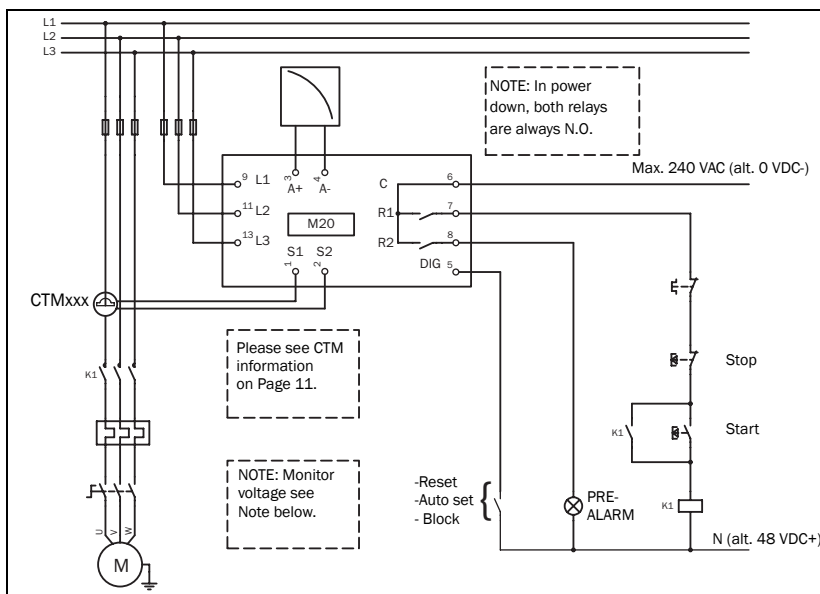
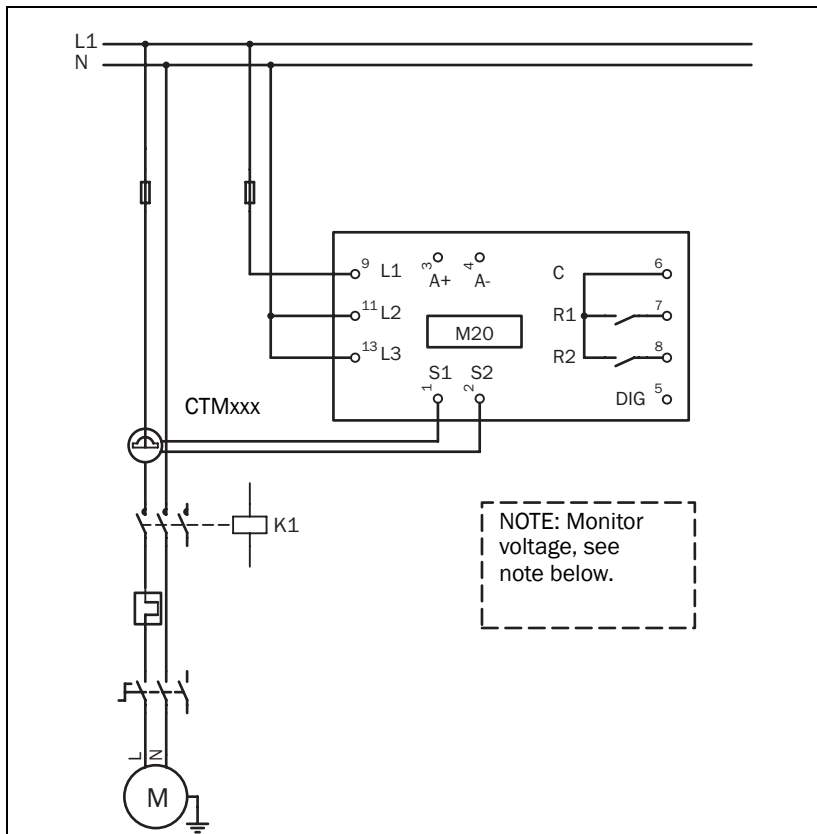

Fig. 1 Connection example
Fig. 2 Single-phase connection example.
1. Connect the Emotron M20 according to chapter 5 and Fig. 1.
The following wiring diagram provides an example of how the M20 can be connected to control the start/stop circuit of a three-phase motor, Fig. 1. Connections to a single-phase motor are described later in this manual (Fig. 2) as are the programming changes necessary for such applications. The default setting for the M20 is 3-phase.
1. The current transformer CTMxxx must be placed in the same phase that is connected to terminal 9, phase L1, see Fig. 1. Failure to follow this requirement will result in the monitor failing to function.
2. For single-phase connection see fig 2.
**Note: The current transformer (CTMxxx) must be placed in the same phase that is connected to terminal 9, phase L1, see Fig. 1.**
**NOTE: If the START/STOP is connected as per Fig. 1, it is recommended that terminals 6 and 7 be bypassed during programming. After the programming is completed the bypass must be taken out. Make sure that the monitor voltage range e.g. 3x380-500 VAC matches the connected motor/line voltage, e.g. 3x 400 V.**
This wiring example shows the connections required for single-phase applications. Refer to Fig. 1 for the remaining wiring.
**NOTE:** In Fig. 2 make sure that the monitor voltage range e.g. 1x100-240 VAC matches the connected motor/“line – neutral” voltage, e.g. 1x 230 V.
The digital input uses terminals 5 (DIG) and 6 (C - reference). Either a VAC or a VDC signal may be used. Connect + to terminal 5 (DIG) and - to terminal 6 for VDC signal. Please note the polarity when DC voltage is used. See also Fig1 and terminal 6: Max. 240 VAC (or 0 VDC-) and on terminal 5: N (or 48 VDC+). See also chapter 9, Advanced Features.